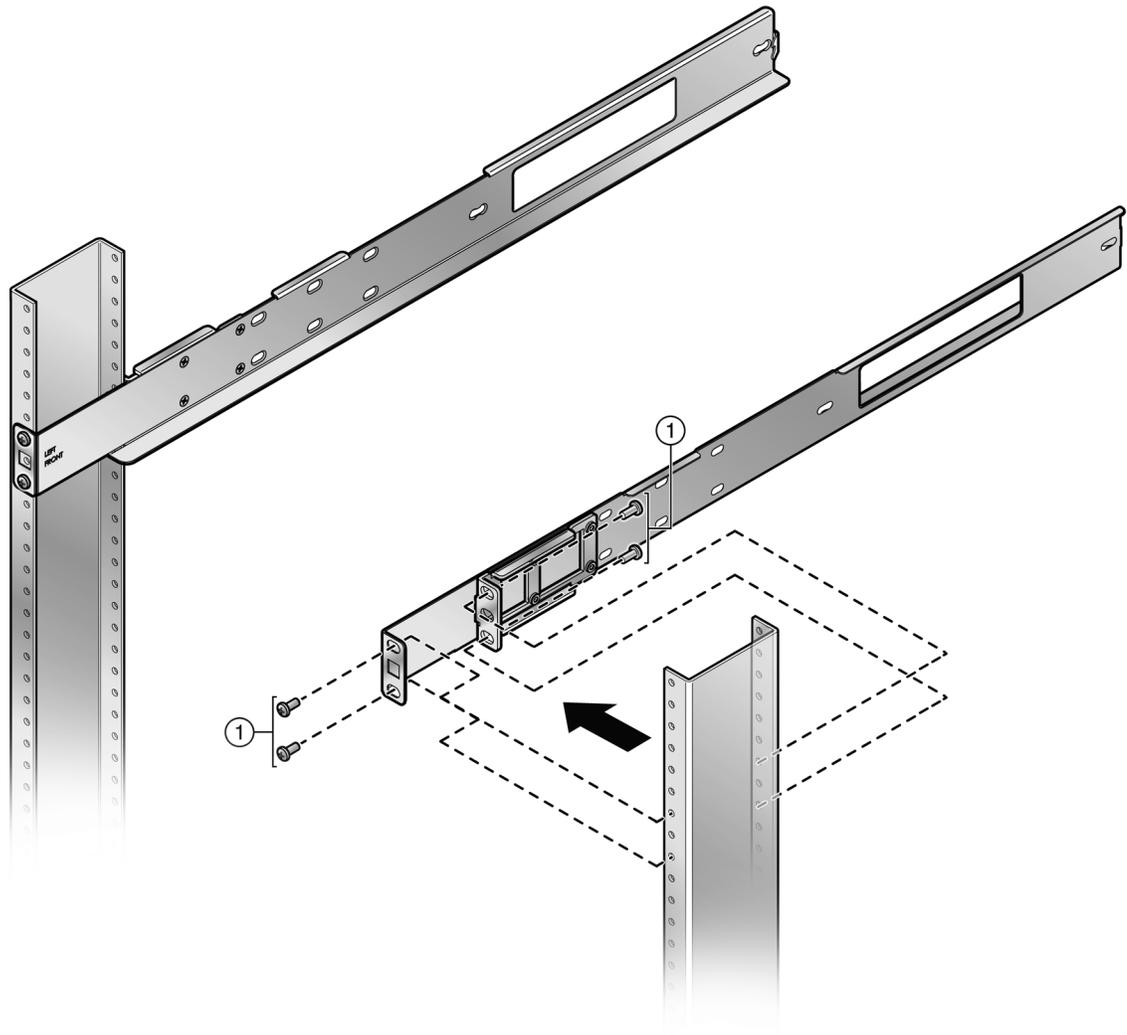

Figure 30: Securing a Flush Mount Rail Assembly
- 1 Align the rail ear circular openings with outer front flange rack post openings and the mid-bracket ear openings with outer rear flange rack post openings as shown in Figure 30: Securing a Flush Mount Rail Assembly on page 66.